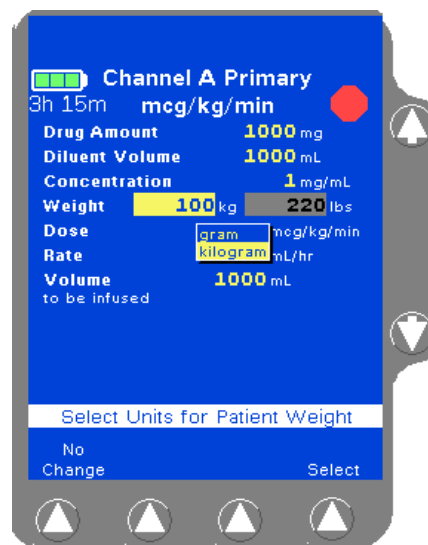

Figure 4-64 Enter Weight
- Highlight the **Weight** field and enter the patient's weight using the numeric keypad (Figure 4-64). Depending on how the pump has been configured, the **kg** or **lbs** field may not be available for data entry.
- For small patients, weight can be entered in grams (or ounces) if appropriate. Highlight the **Weight** field, press the **Units** soft key to display the weight units list (Figure 4-64), highlight the desired weight unit, then press the **Select** soft key.